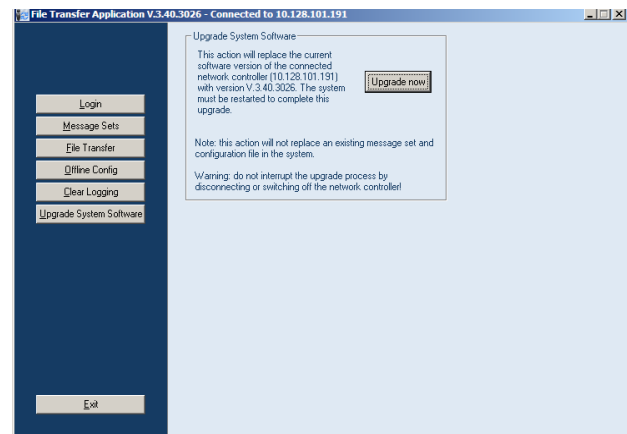

figure 36.5: File transfer screen
- 1 Click the *Upgrade system software* button. A screen similar to the one in figure 36.5 appears.